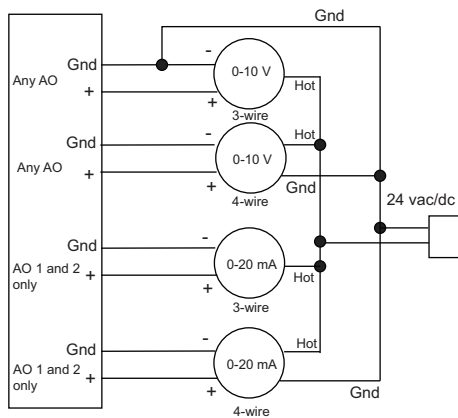

Fig. 4 — Connect Analog Output Wiring to Screw Terminals
4. Connect the analog output wiring to the screw terminals on the TruVu™ and to the controlled device (see Fig. 4).